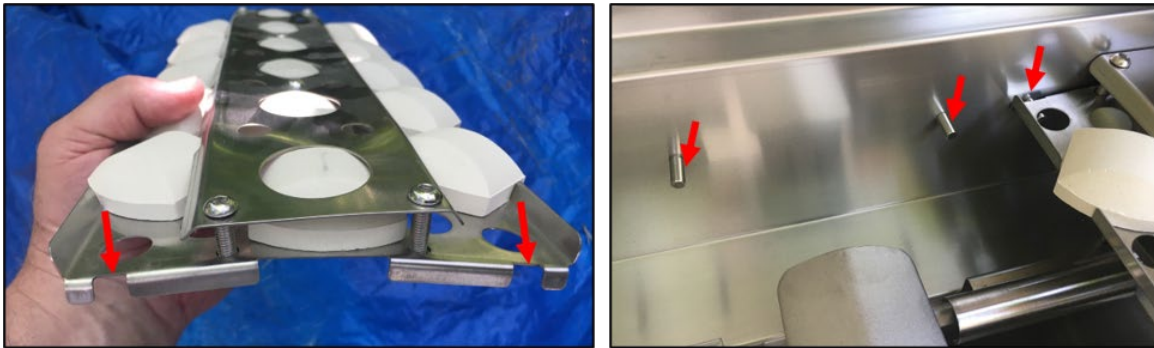

Figure 16 Flame Tamer Installation
3. Seat each flame tamer in place on support pins on each end with briquet side up (Figure 16)